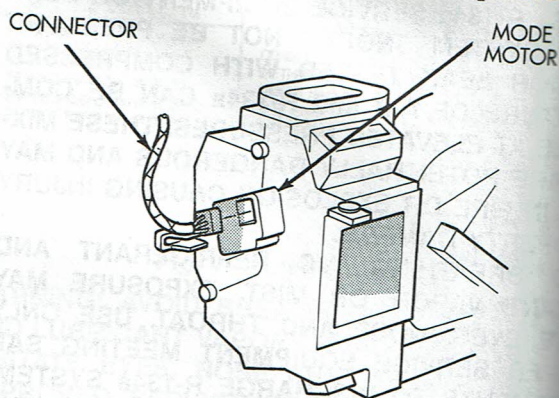

Fig. 9 Mode Motor Connector
- (1) Disconnect battery negative cable.
- (2) Remove left underpanel silencer/duct.
- (3) Remove electrical connection on actuator (Fig. 9).
- (4) Remove actuator retaining screws. Then pull actuator straight down. Upon removal, note the shaft position of the actuator, because the shaft on this motor is keyed. When installing new actuator, its shaft must be positioned in the same location.